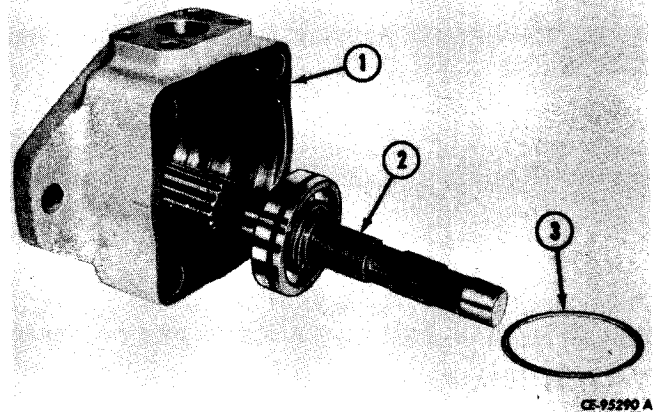

Figure 11-28
Remove the snap ring (3, Fig. 11-28). Remove the shaft with bearing (2) from the body (1).